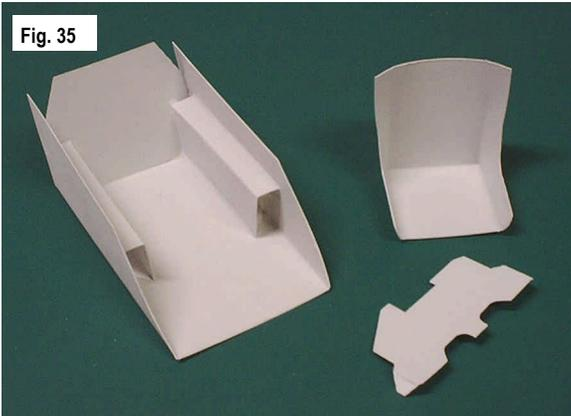

Fig. 35
□ **35.** Paint the tub assembly, seat and instrument panel as shown in Fig. 35.